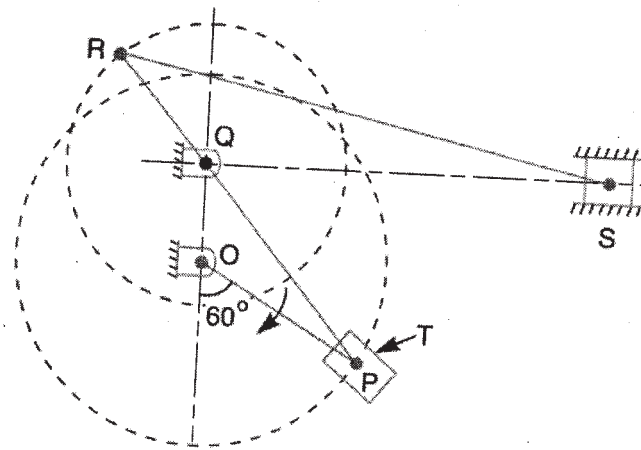

Fig. 01
- b) Fig. 01 shows the structure of Whitworth quick return mechanism used in reciprocating machine tools. The various dimensions of the tool are as follows: OQ = 100 mm; OP = 200 mm, RQ = 150 mm and RS = 500 mm. The crank OP makes an angle of 60° with the vertical. Determine the velocity of the slider S (cutting tool) when the crank rotates at 120 r.p.m.